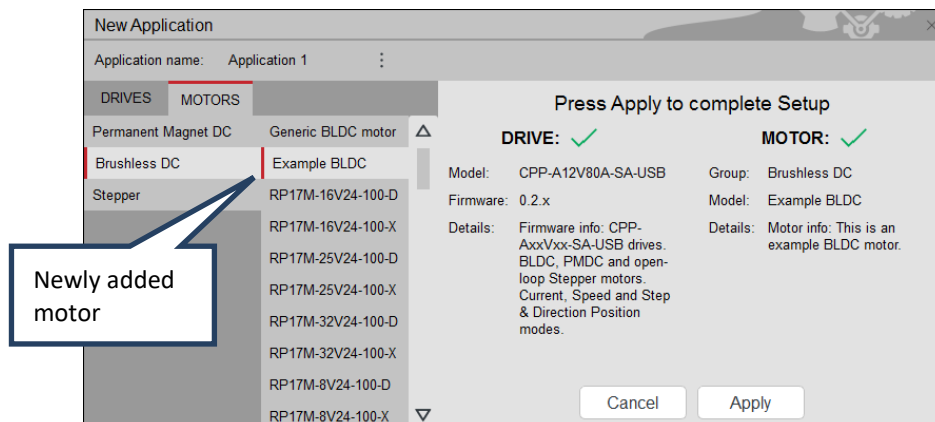

Figure 75: New Motor displayed while creating new project
- If the motor was successfully entered into the database, it will be displayed in alphabetical order in the *New Application* window as shown in Figure 75.